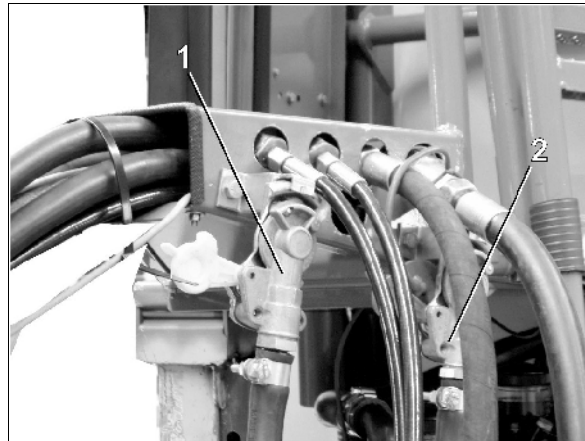

Fig. 31
2. Remove the coupling claw of the second hose (red) (Fig. 31/2).
3. Remove the coupling claw of the brake hose (yellow) (Fig. 31/1).